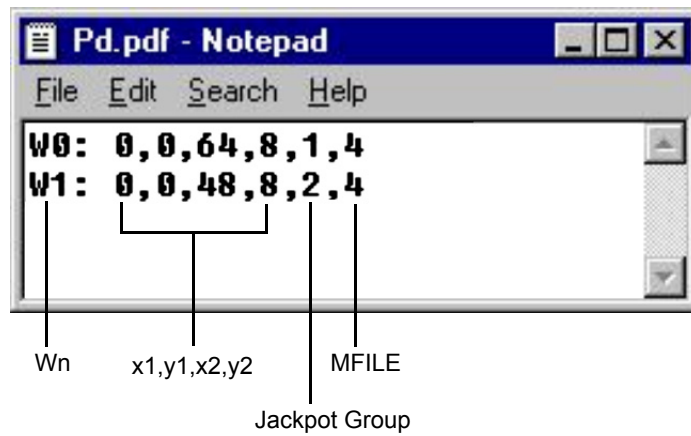

Figure 5.3 Sample .pdf file
Figure 5.3 shows an example of a .pdf file, which has the following format:
- **x1,y1,x2,y2** - Window coordinates (in pixels). The coordinates (x1, y1) are the top left corner of the window, while (x2,y2) are the coordinates for lower right corner. In Figure 5.3, W0 has the x1,y1 coordinates of (0,0) and the x2,y2 coordinates of (64,8).
- **Jackpot Group** - A machine can have up to eight jackpot groups—0 through 7. This number represents the particular jackpot group information that appears in that window. For example, in Figure 5.3, Jackpot Group 1 information will display in W0 and Jackpot Group 2 in W1.